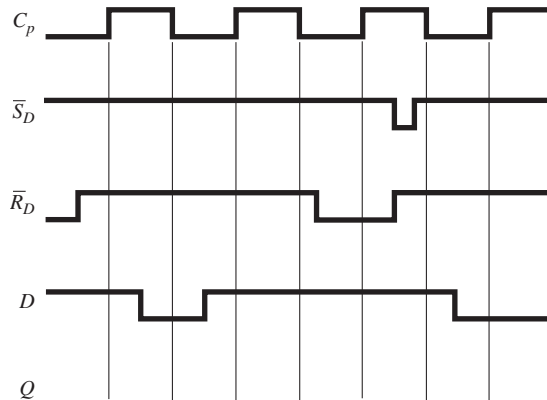

Figure P16
16. Repeat Problem 15 for the input waves shown in Figure P16.